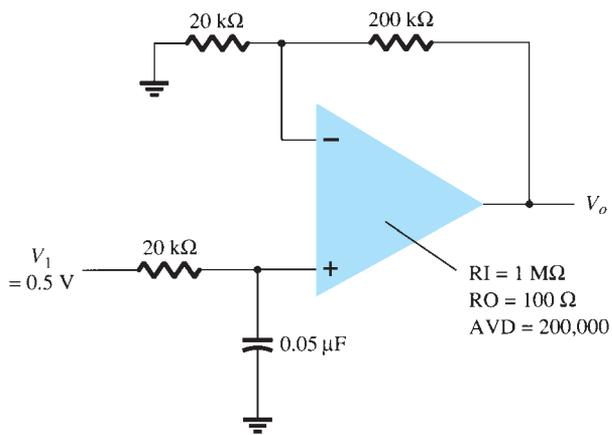

FIG. 11.62
*20. Use Multisim to plot the response of the low-pass filter circuit in Fig. 11.62.